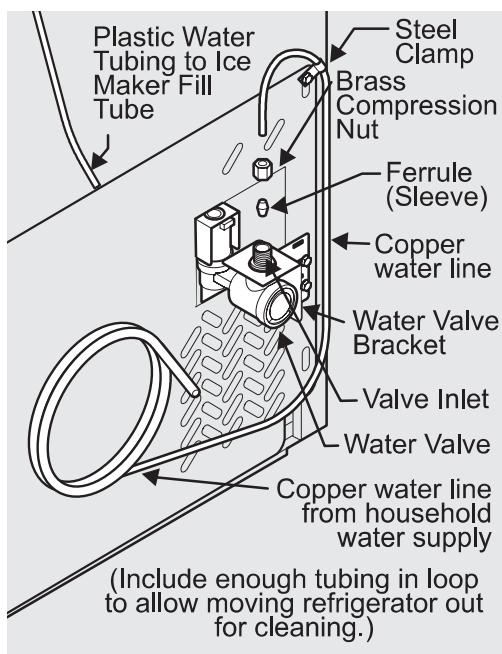

Figure 1
4. If you use copper tubing - Slide brass compression nut, then ferrule (sleeve) onto water supply line. Push water supply line into water valve inlet as far as it will go (1/4 inch / 6.4 mm). Slide ferrule (sleeve) into valve inlet and finger tighten compression nut onto valve. Tighten another half turn with a wrench; DO NOT over tighten. See Figure 1.